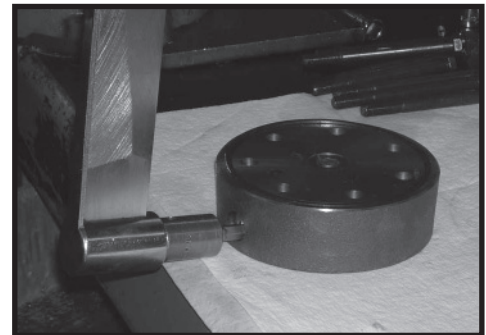

Figure 8
5. If the end cover (2) is equipped with shuttle valve or relief valve (24) components, remove the two previously loosened plugs (21) and o-rings (22). SEE FIGURE 8.
**NOTE: O-ring (22) is not included in seal kits but serviced separately if required.**